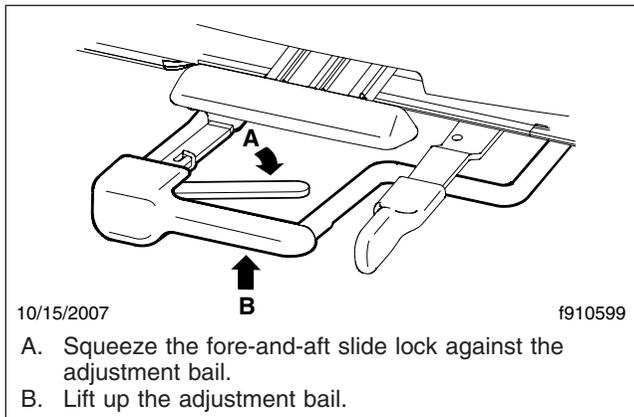

Fig. 9.5, Fore/Aft Slide Adjustment, Sears Atlas Seat
2. *Fore/Aft Seat Slide:* To adjust the fore-and-aft position of the entire seat, squeeze the fore/aft slide lock against the adjustment bail, and lift the bail up. See Fig. 9.5. Slide the seat forward or backward to the desired position. Release the bail and fore/aft slide lock, to its original position, to lock the seat in place.